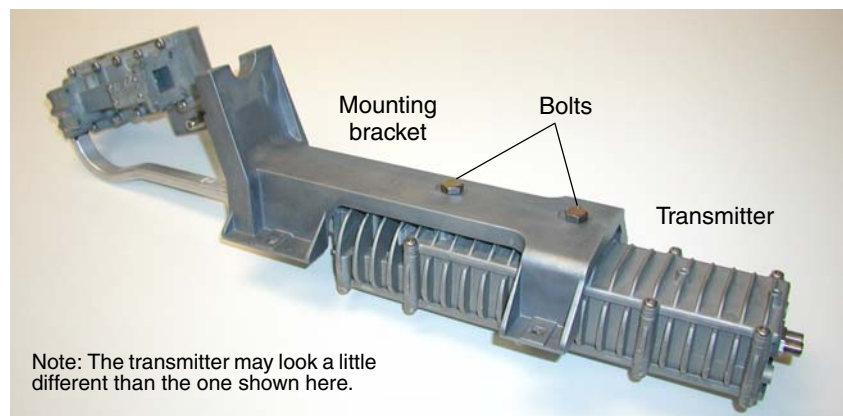

Figure 27: Attaching the upper mounting bracket
1. Place the upper mounting bracket onto the transmitter, in the position shown in Figure 27.